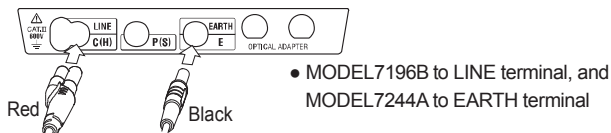

Fig. 10-1
- Connect the test leads as Fig. 10-1 shows.